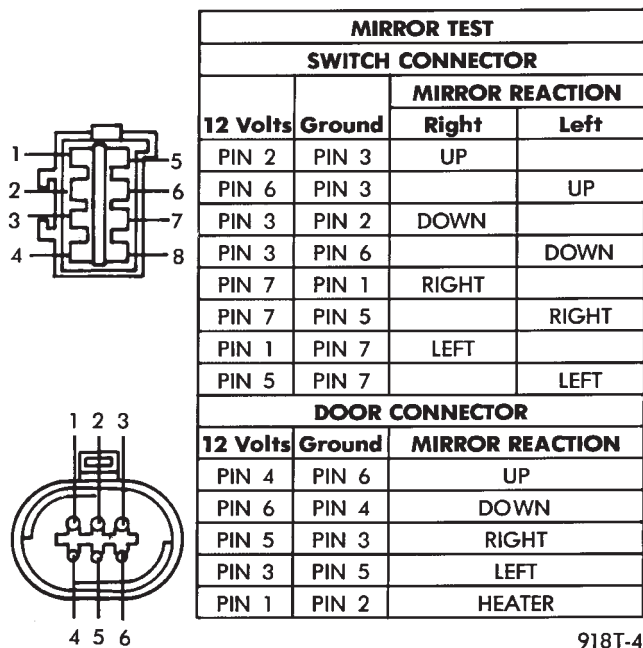

Fig. 2 MIRROR TEST — AP Body
(1) Remove power mirror switch from mounting position.
(2) Disconnect switch wiring harness at connector. In the case of memory mirrors, (green 8-way mirror connector and memory switch in drivers door panel), the switch wiring disconnects from the cowl top harness rather than the mirror harness.
(3) Using two jumper wires, one connected to a 12 volt source, and the other connected to a good body ground. Refer to the Mirror Test (Fig. 2 through 5) for appropriate switch style, and for pin numbers.
(4) If results shown in the Fig. 2 through 5 are not obtained, check for broken or shorted circuit, or replace mirror assembly as necessary.
- Apply voltage to one wire and ground the other, refer to Fig. 2 through 5 for pin numbers. Mirror should become warm to the touch.